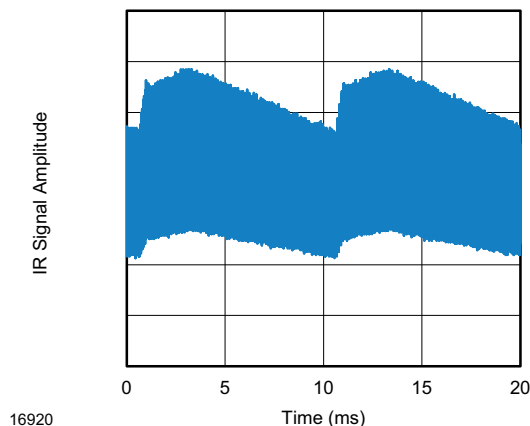
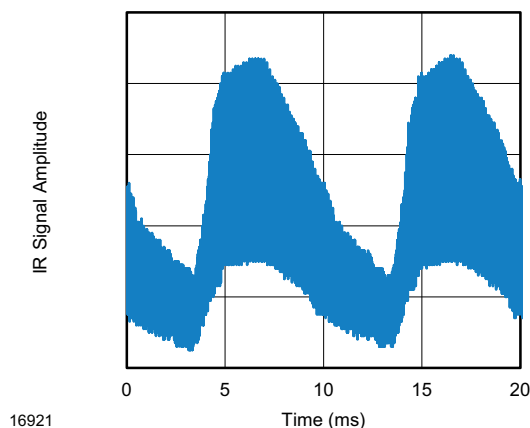

Fig. 13 - IR Emission from Fluorescent Lamp With Low Modulation
Fig. 14 - IR Emission from Fluorescent Lamp With High Modulation
- Strongly or weakly modulated patterns from fluorescent lamps with electronic ballasts (see Fig. 13 or Fig. 14)